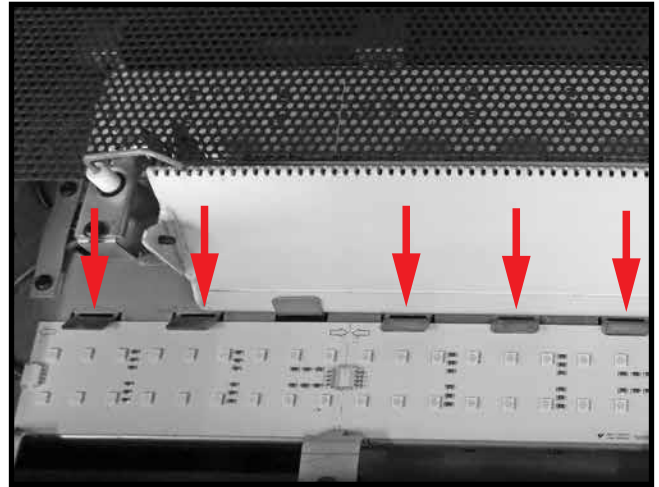

Figure 54: LED strip hold down tabs.
6. The LED sections and rows are held in place by hold down tabs (Figure 54). These tabs can be lifted up so that the LED section can be removed.